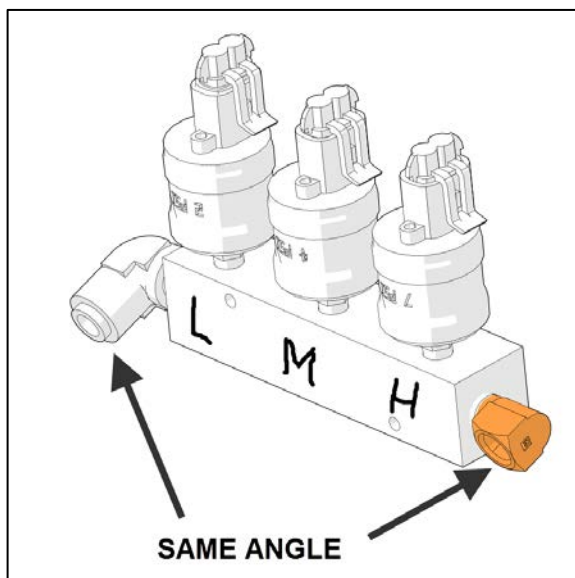

**Figure 6**
8. Install the new elbow on the manifold. Align the new elbow with the existing elbow on the opposite side (Figure 6).